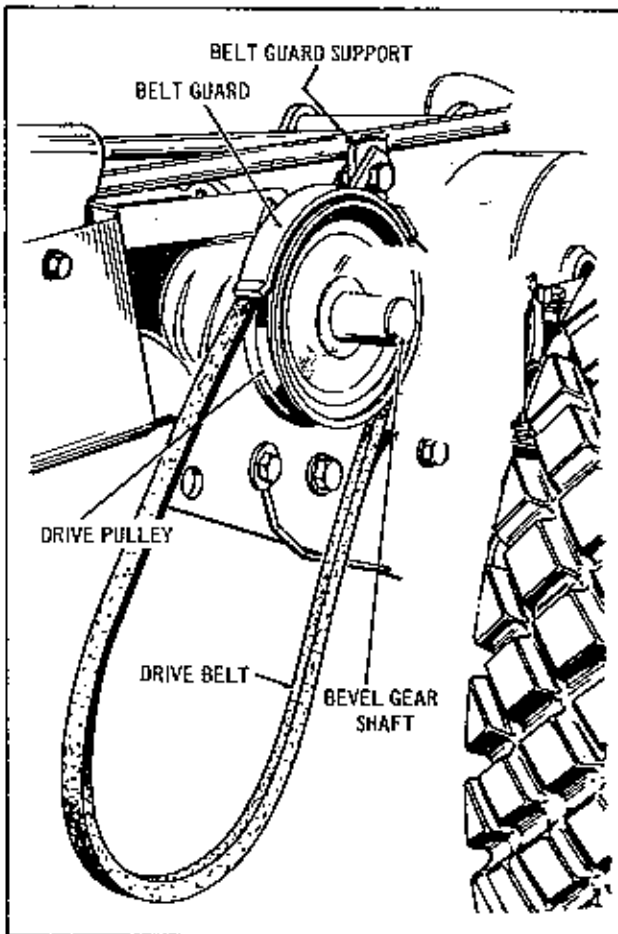
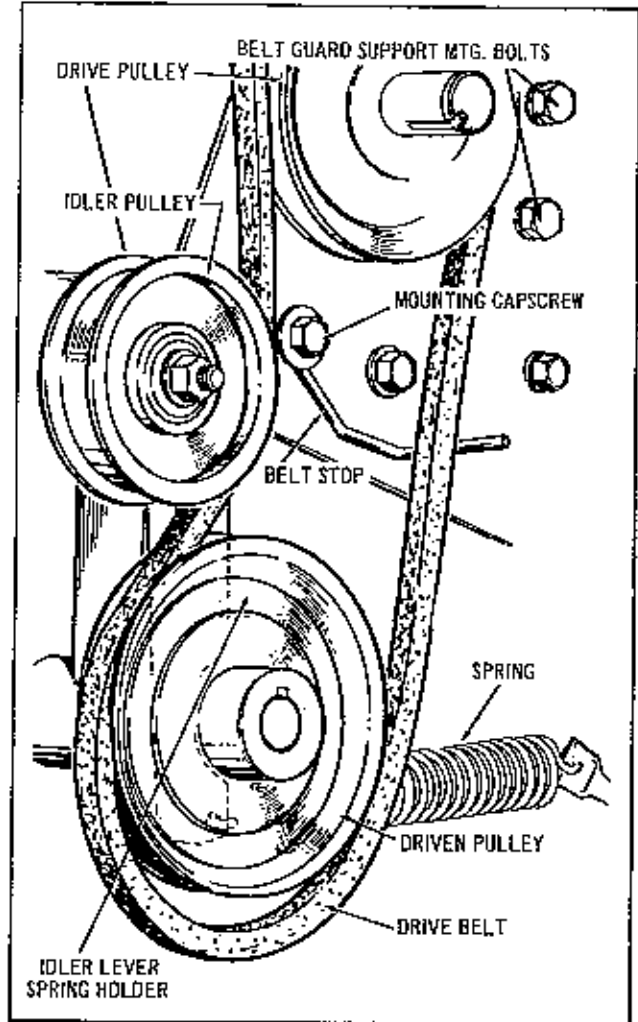

Figure 1
Figure 5
1. Mount Drive Pulley to Shaft of Bevel Gear Assembly See Figure 1, and secure in place with Key and Set Screw. Hub of Drive Pulley is to face inward. Place Drive Belt on Drive Pulley and mount Belt Guard Support to inside surface of Side Plate nearest Drive Pulley. See Figure 5 for Mounting Bolt location. Attach the Belt Guard to the Guard Support as shown in Figure 1. Allow approximately 3/16" clearance between Belt and Guard.
5. Remove Front Hex. Cap Screw from Pull Bar. Replace with stud 157273 provided. Short end inserted. Slip on Handle Assembly and tighten with Hex. HeadLock Nut to permit free movement of handle. Mount "V" Belt in place on driven pulley as shown in Figure 5 and attach spring to hole provided in the bottom of the Bracket Assembly. Hook
other end of the spring to the Handle Assembly. Mount Belt Stop as shown with 3/8" Bolt, Flat Washer, Lock-washer, and Hex. Nut, When Implement is attached to tractor with Idler Pulley engaged, 1/8" clearance between Belt Stop and back of "V" Belt is required. NOTE: "V" Belt runs under Idler Pulley. See Figure 5.